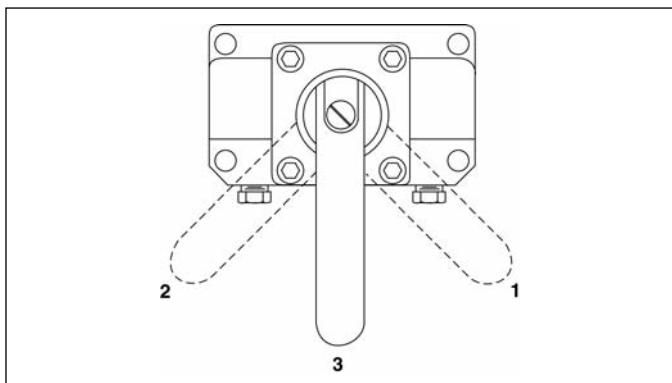

Figure 8
The pump control valve directs hydraulic fluid output or return from the hydraulic system components. These models have 3 way, 2 position valves. Valve positions are shown in Figure 8: (1)-Advance; (3)-Retract. To advance the cylinder, shift the valve to the advance position (1) and press the pendant switch. The cylinder will advance until the pendant switch is released.
PUJ 1400B/E and PUJ-1401B/E Models (Figure 8)
Control valves on PUJ-1400B/E and PUJ-1401B/E pumps are 4-way, 3-position, for use with double acting cylinders where advance and retract are hydraulically actuated. Valve positions are shown in Figure 8: 1-Advance; 2- Retract; 3- Neutral. In each position the cylinder movement is controlled by the pendant switch.